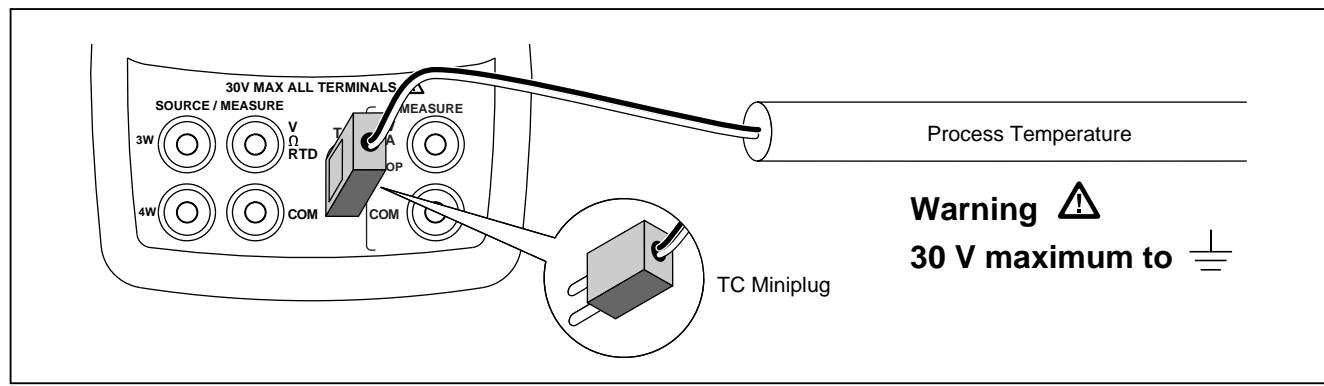

Figure 10. Measuring Temperature with a Thermocouple
1. Attach the thermocouple leads to the appropriate TC miniplugin, then to the TC input/output as shown in Figure 10.